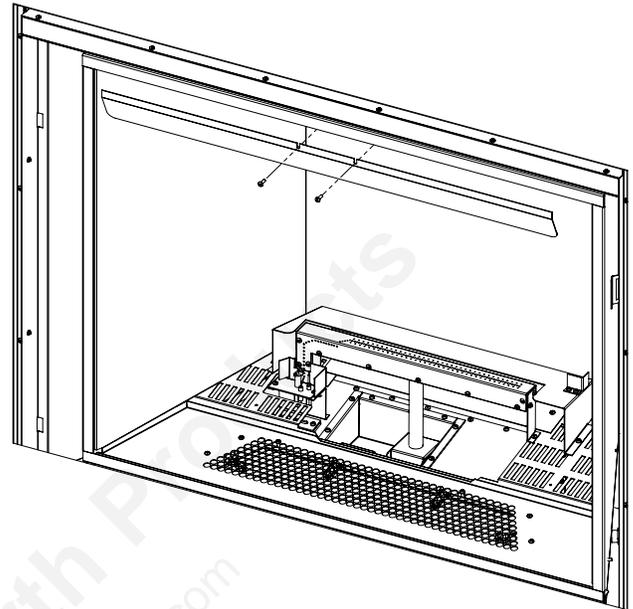

Figure 27: Light Deflector Removal
3. Remove light deflector (see Figure 27).